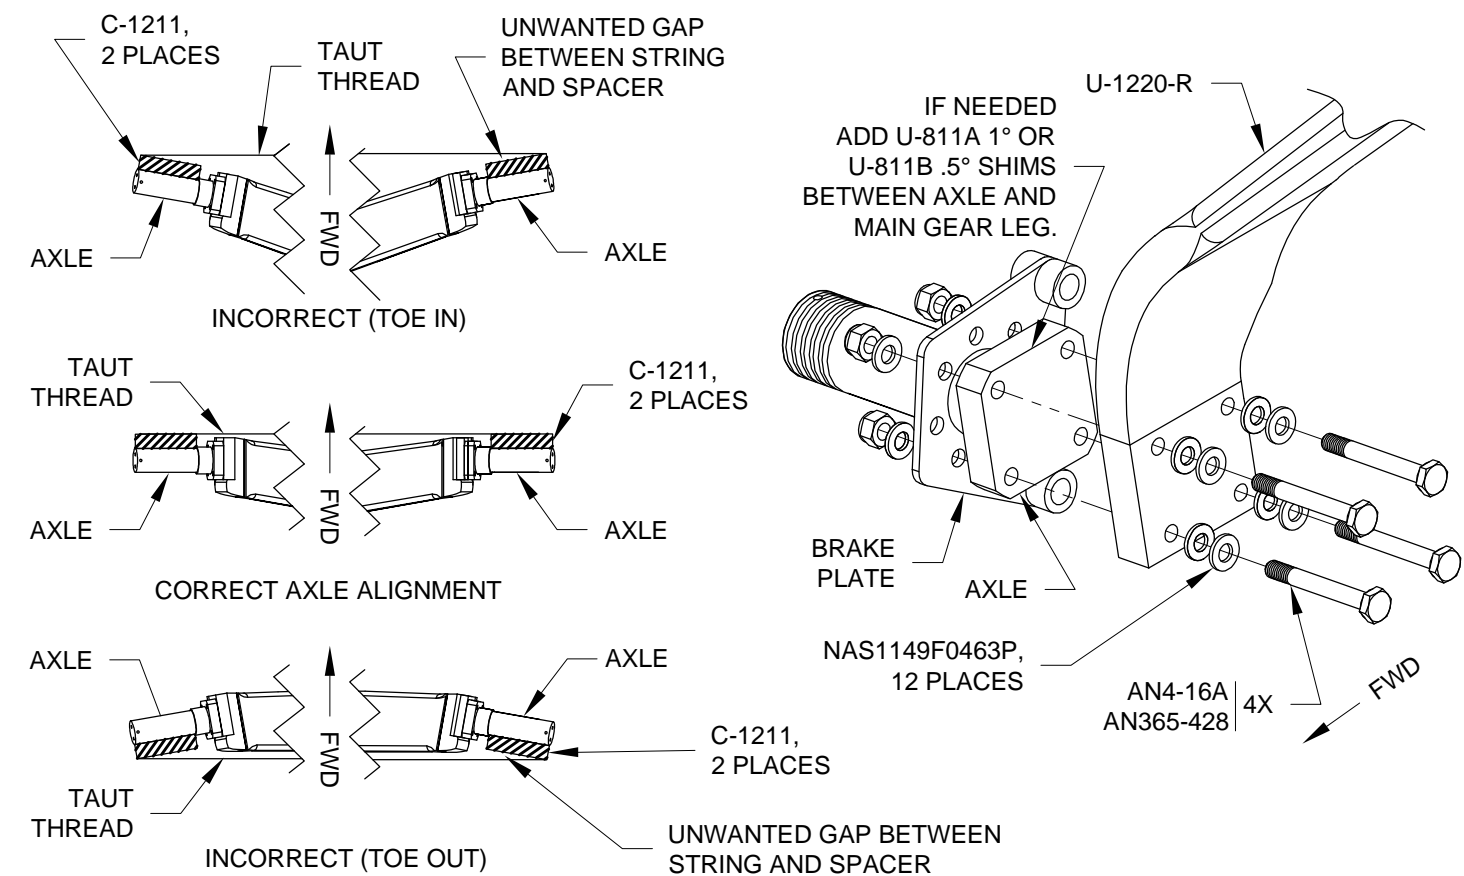

FIGURE 1: ATTACHING AND ALIGNING THE MAIN GEAR AXLES
Step 1: Bolt the main gear axles and brake plates to the U-1220-L and U-1220-R Main Gear Legs with the provided hardware and check that the axles are properly aligned using the C-1211 Align Blocks as shown in Figure 1. If needed, add shims to align the axles properly (1/2° and 1° shims are available in the Van's Aircraft Accessories Catalog). See Figure 1.